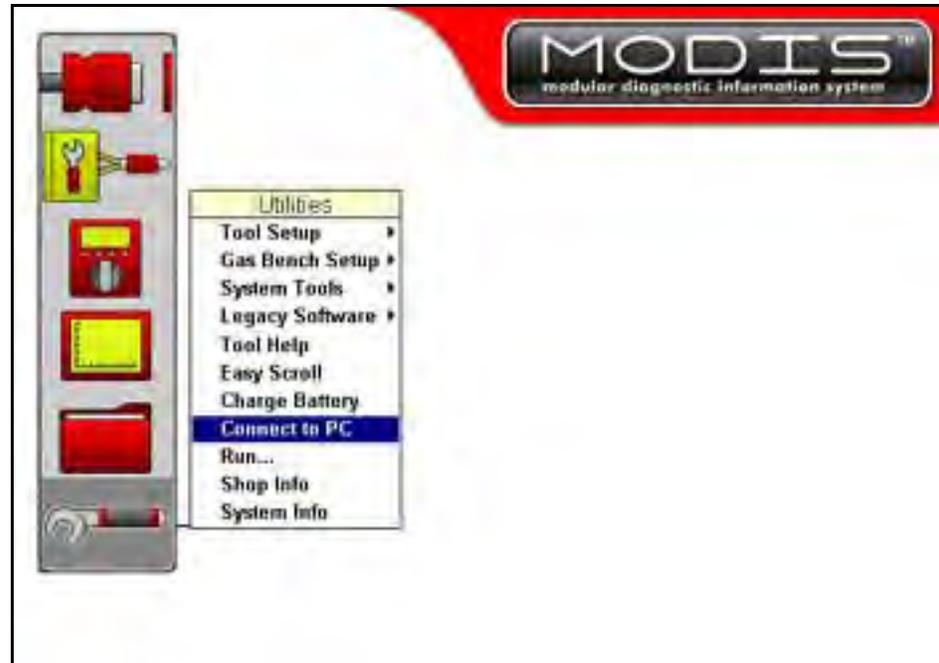

Figure 2-19 Sample MODIS utilities menu
2. From the Main Menu, Select **UTILITIES > Connect to PC**, and press **Y** (Figure 2-19).